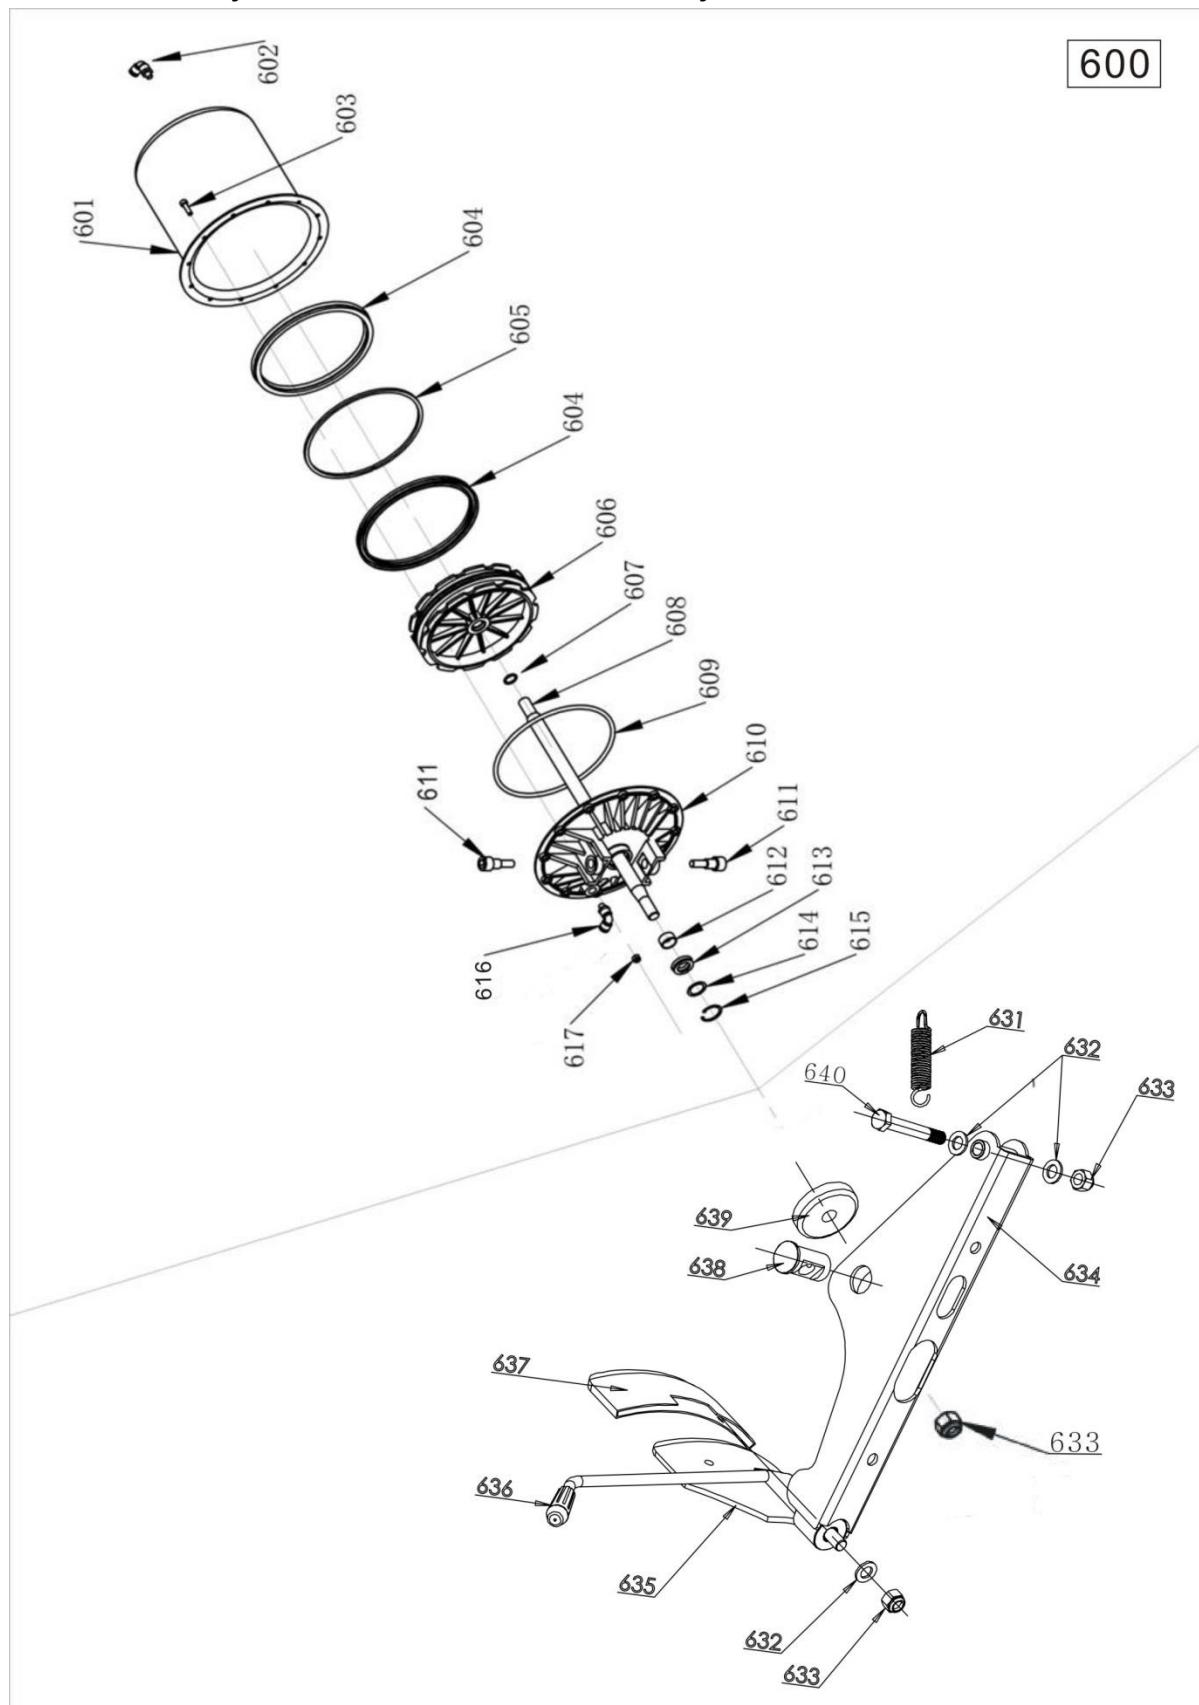

Fig. 38
**2065790 Parts of bead breaker cylinder (Fig.38)**
**2065574 Parts of bead breaker arm (Fig.38)**